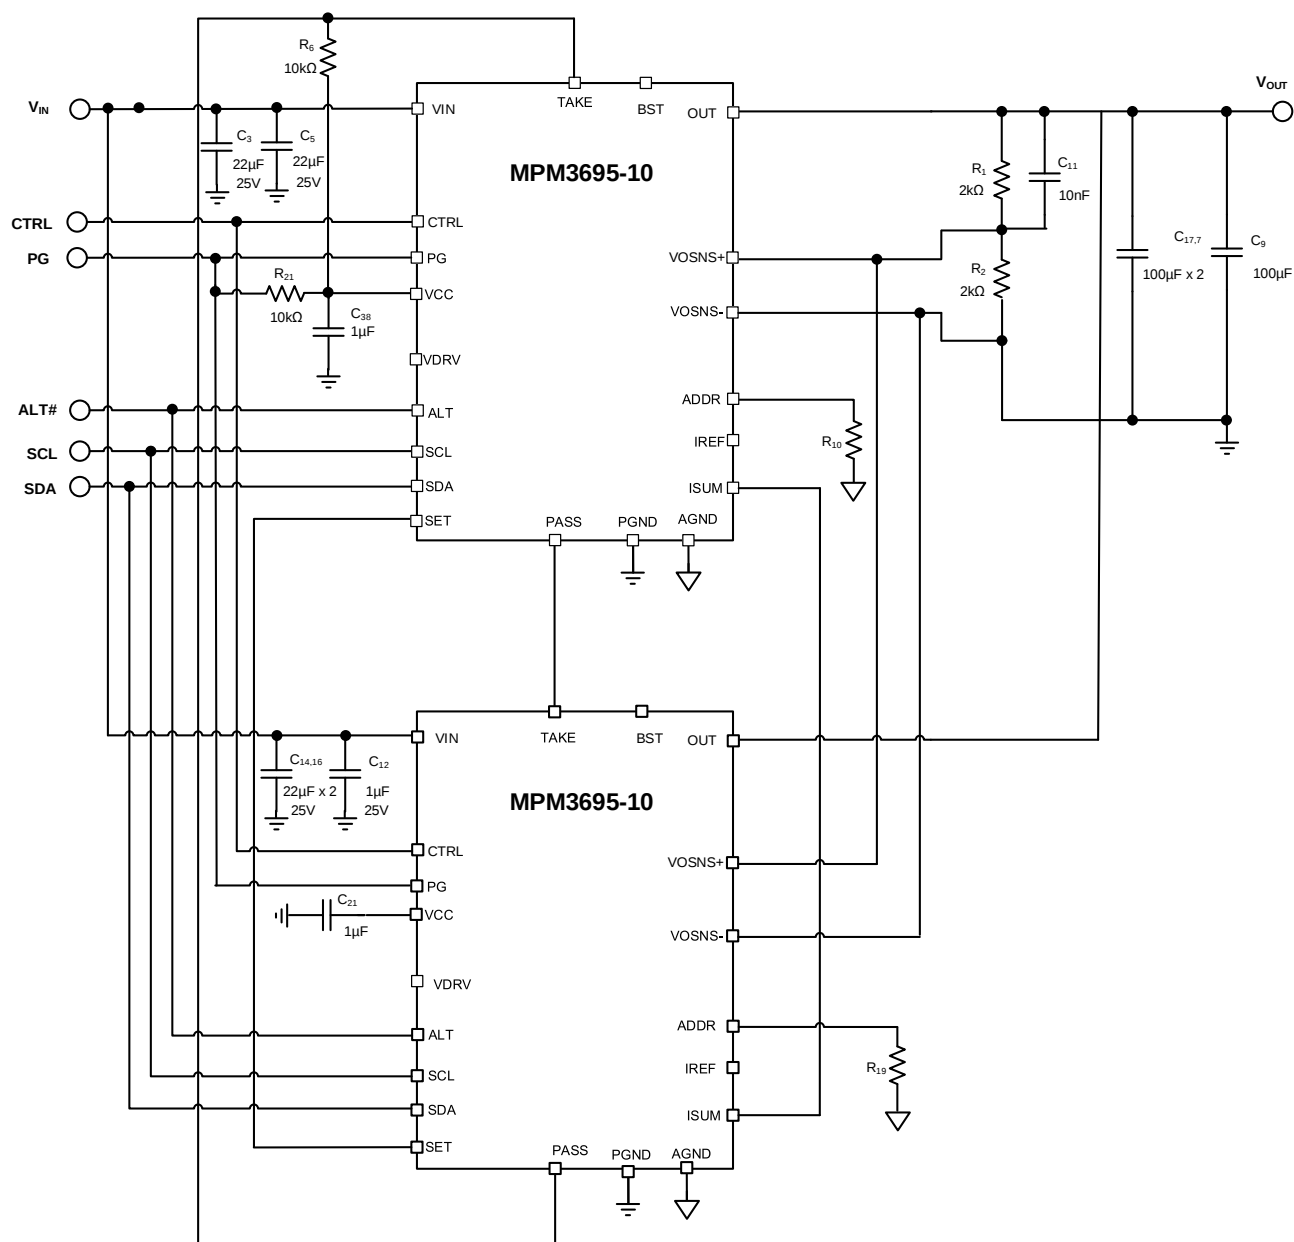

Figure 10: Typical Application Circuit – Dual-Phase, V_{IN} = 4V to 16V, V_{OUT} = 1.2V at 20A Output
The start (S) and stop (P) commands are signaled by the master device, and signify the beginning and the end of the PMBus transfer. A start command is when the SDA signal transfers from high to low while SCL is high. A stop command is when the SDA signal transfers from low to high while SCL is high (see Figure 10).